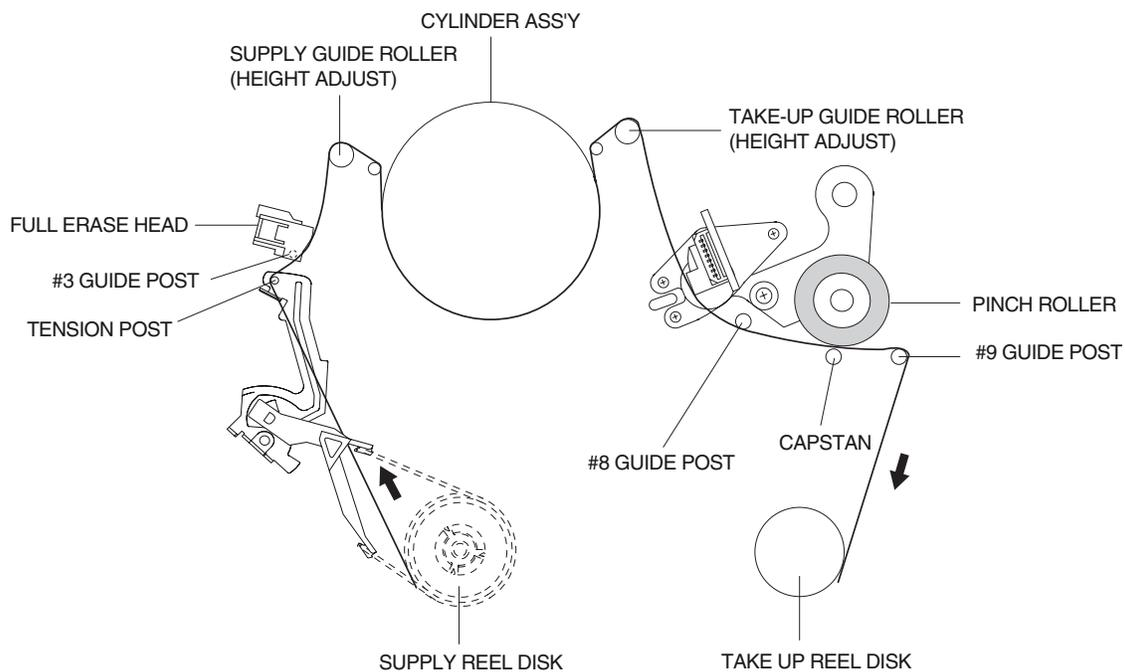
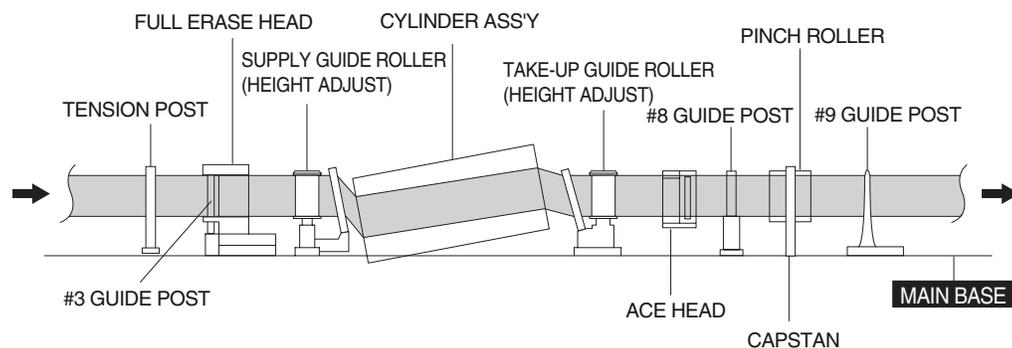

Fig. 5-3-1 Locations of Tape Transport Components
Fig. 5-3-2 Tape Running
- If tape wrinkle is observed at the supply and take-up guide rollers, turn the supply and take-up guide rollers until wrinkle disappears. (See Fig. 5-3-1 and Fig. 5-3-2)
If there is a gap, turn the supply guide roller height adjustment screw until this gap is eliminated. (See Fig. 5-3-1 and Fig. 5-3-2)